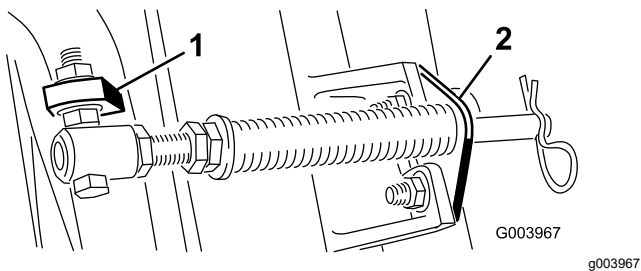

**Figure 10**
- A. Remove the 2 carriage bolts and nuts securing the rod bracket to the cutting-unit tabs (Figure 10).
- B. Remove the flange nut securing the spring-tube bolt to the carrier-frame tab (Figure 10)